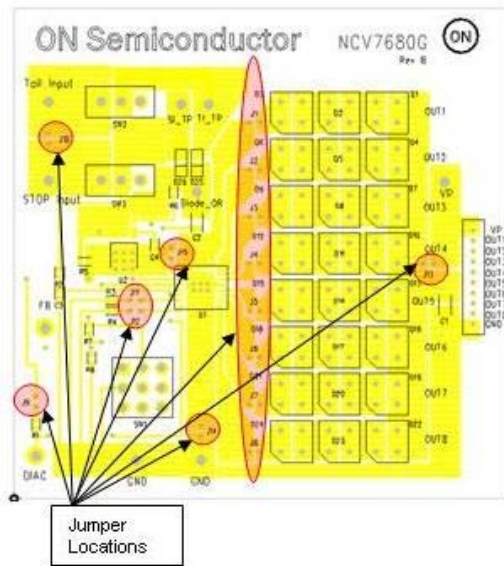
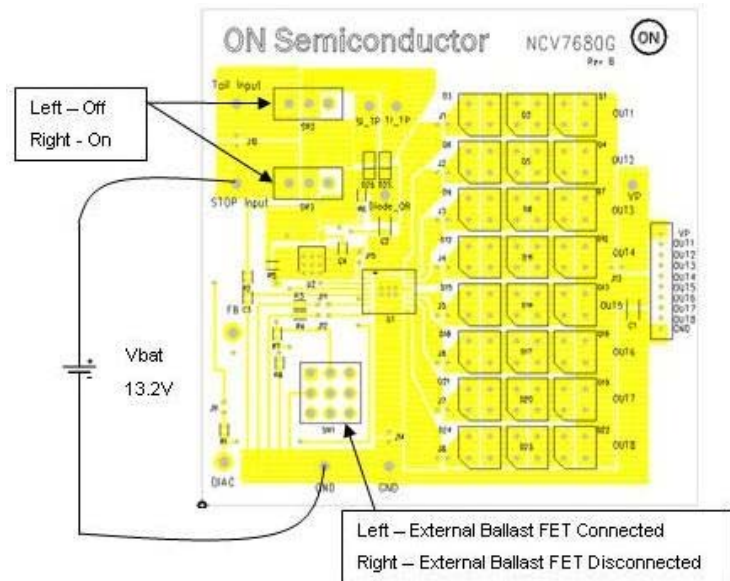

Figure 3. Jumper Locations
Figure 4. Power Connections
1. There are 15 jumpers on the board. Start with all 15 jumpers connected. Jumper locations are shown in Figure 3. A list of jumper functionality is shown in the board schematic (Figure 2). Typical connections to the evaluation board are shown in Figure 4.